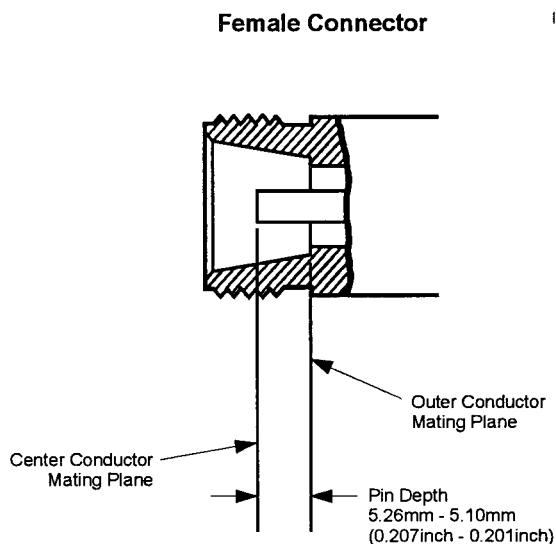
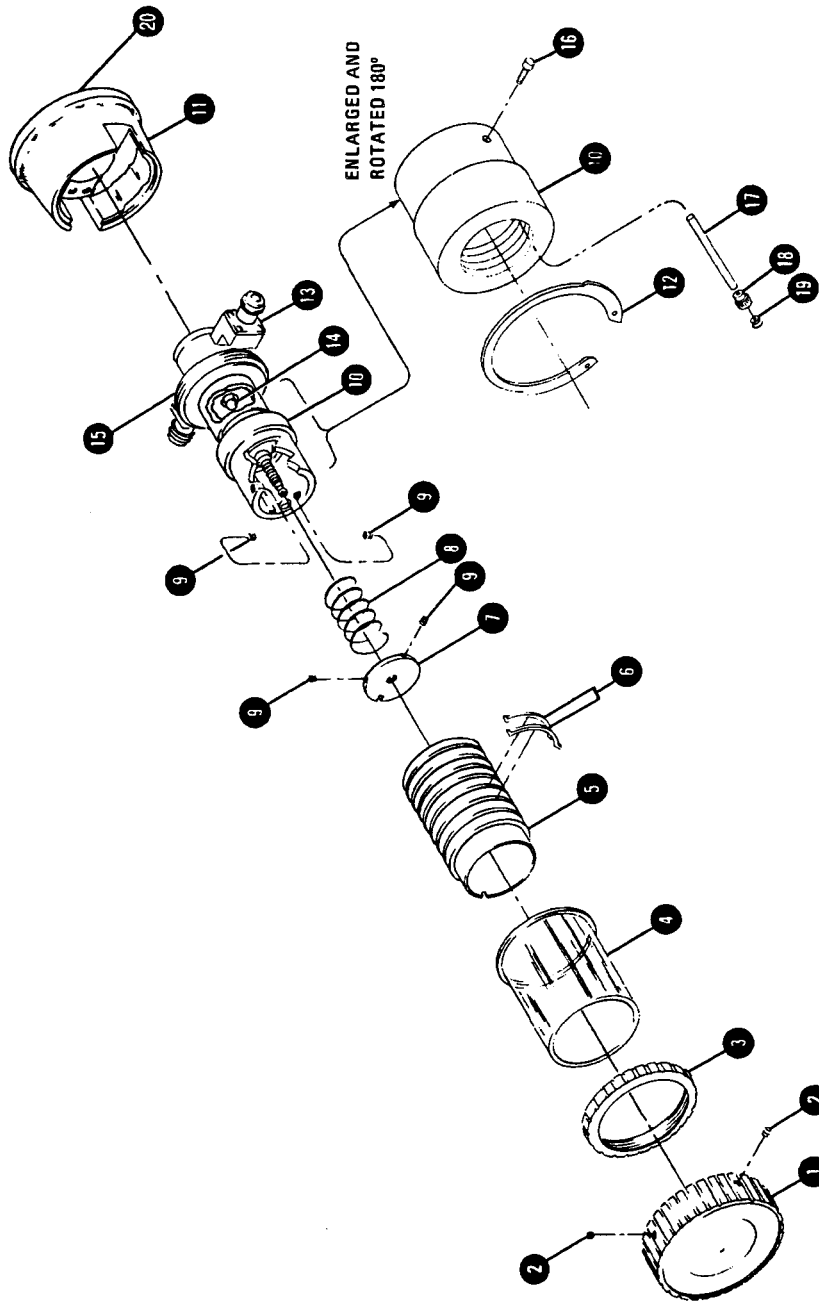

Figure 1 Type-N Connector Dimensions
Figure 4 537A Repair and Recalibration.
3. For the following procedures refer to Figure 4 on page 12 and Figure 1 on page 1.
(Numbers in parentheses refer to numbers on drawing in Figure 4. To replace the stop gear, proceed as follows:
1. See Figure 4 for parts location.